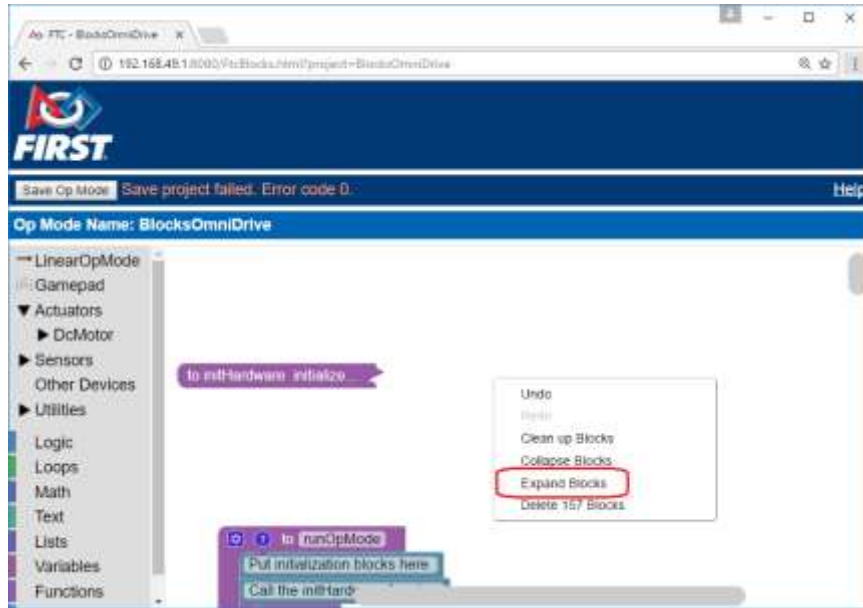
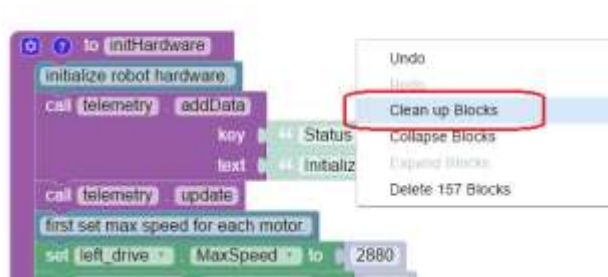

Figure 15: Right click on the canvas to "Expand Blocks"
Figure 16: Right click on the canvas to "Clean up Blocks"
2. Are the blocks *collapsed* and/or in an area of the design “canvas” (or design pane) that is outside your current browser window? If so, you can use the *expand* and *cleanup* functions of the blocks programming tool to expand all of the blocks on your screen and to organize them in an easy-to-view (and easy-to-find) manner (Figure 15 and Figure 16).